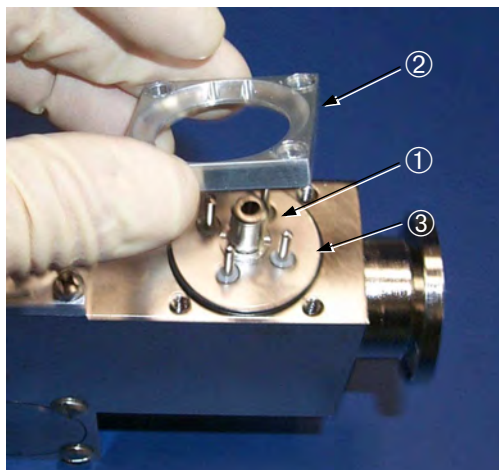

Figure 4-10 Removing the Button TC
2. Remove the Button TC header ② (Figure 4-10) by pressing down on the Button TC center post ① and lifting the header ② up and off of the Button TC ③.